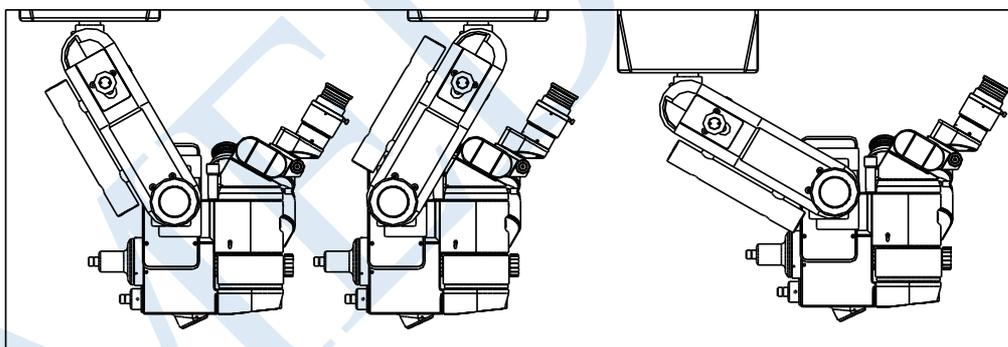

Fig.9
1. First check the packing case for the CCD device, and it includes the spare parts and tools(indicated in Fig. 9).
5. Confirm the angle of the holding arm for the microscope. The holding arm could be adjusted at 30° , 60° , 28° . When it's set to 30° or 60° , there may be great space above the microscope, and it's suitable to assemble other attachments. When it's set to 28° , and if the X-Y coordinator resets to the center, then the main microscope may be coaxial with the X-Y hanging shaft. When adjusting, pull out the spanner[45] and push downwards to depart the fixation block, and then rotate the holding arm till the needed angle, then the fixation block will rebound to the groove automatically(indicated in Fig. 9).